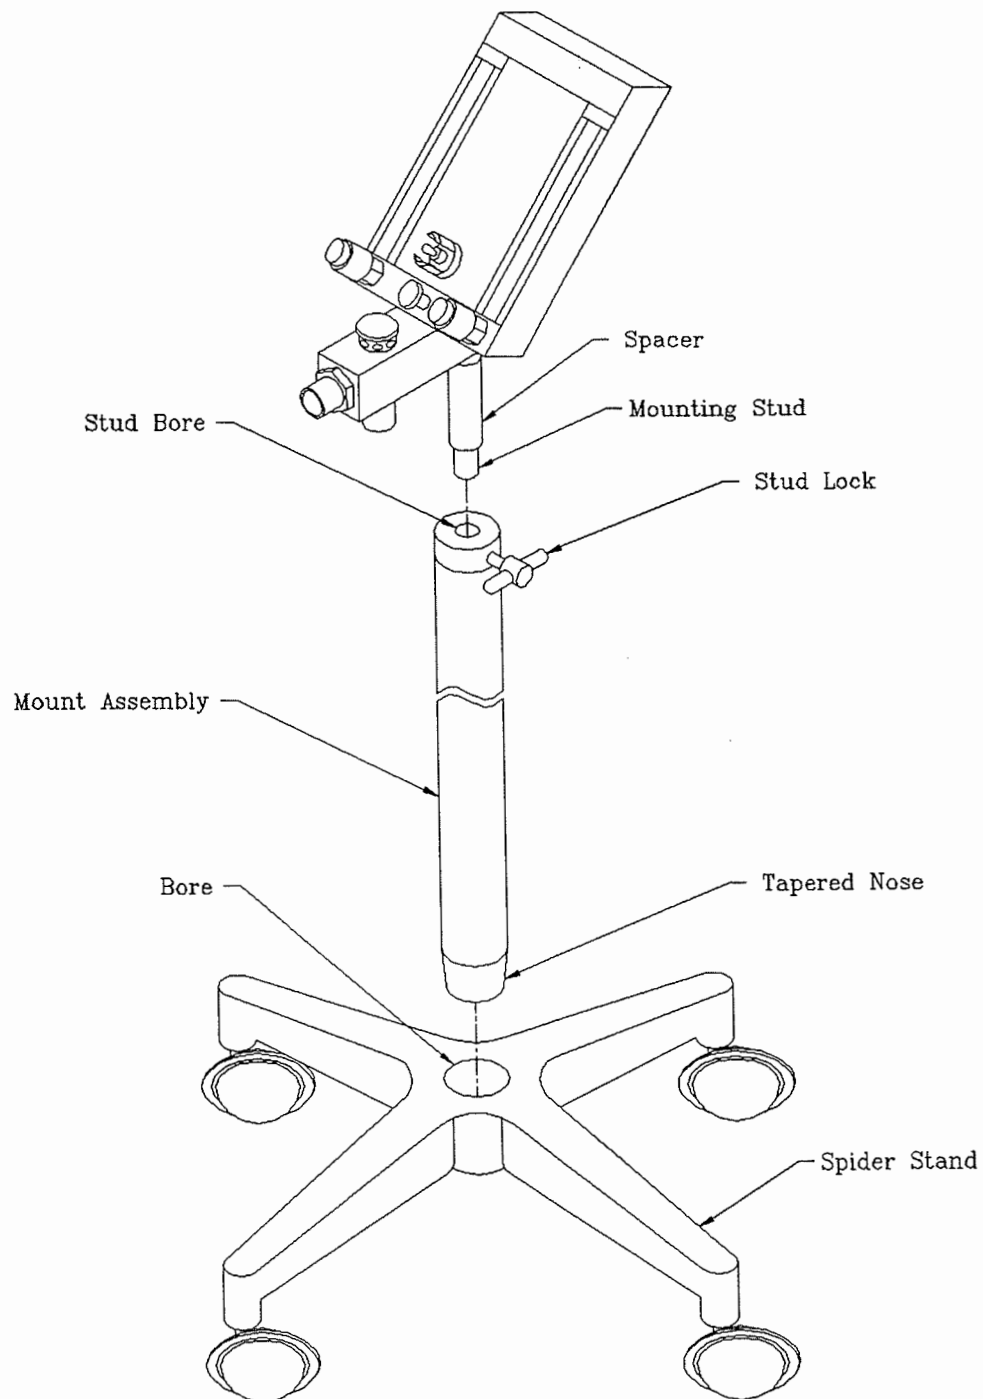

Figure 12
- D) Slide the tapered nose of the pole mount assembly into the bore of spider stand until it comes to a stop. (See fig 12).
- E) Slide the mounting stud through the post spacer (if supplied) and into the stud bore of the pole mounting stud. When the head is at the desired working height, rotate the stud lock clockwise until the stud is locked in place. (See fig 12).
- A) Assemble mobile stand unit as outlined in Figure 12.